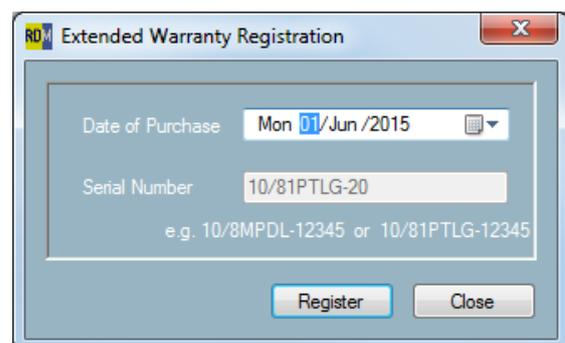

Figure 3.9: Extended Warranty Registration window
2. Select your purchased date (as shown by your invoice), figure 3.9